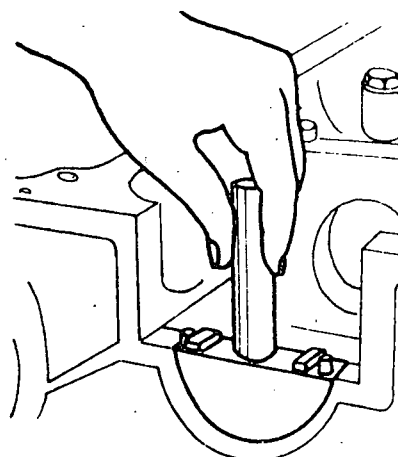

Fig. 8
c) Set the seal with the appropriate tool (fig. 8).